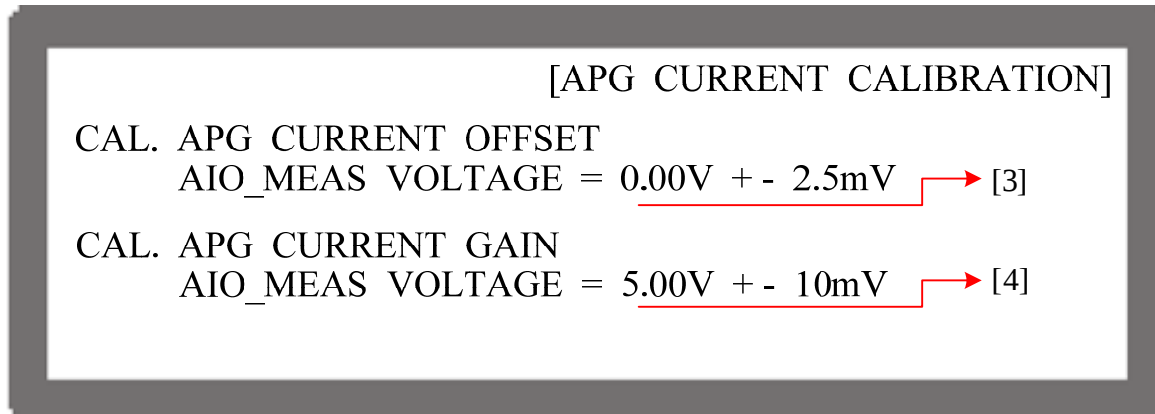

Figure 3-125
6. Press "ENTER" again the cursor stops at position [3] as Figure 3-125 shows. Open the device cover to find VR404 (adjustable resistor) on the PCB of 62xxxP-xx-xx C ver.x. Make the DVM2 reading of Pin6 to be $0.00V \pm 2.5mV$ by adjusting the resistance of VR404. Once the reading is adjusted correctly, press "ENTER" to confirm it.
7. Press "ENTER" again the cursor stops at position [4] as Figure 3-125 shows. The Electronic Load should set to CV mode with 5V loading and then open the device cover to find VR403 (adjustable resistor) on the PCB of 62xxxP-xx-xx C ver.x. Make the DVM2 reading of Pin6 to be $5.00V \pm 10mV$ by adjusting the resistance of VR403. Once the reading is adjusted correctly, press "ENTER" to confirm it and remove loading from the Electronic Load.